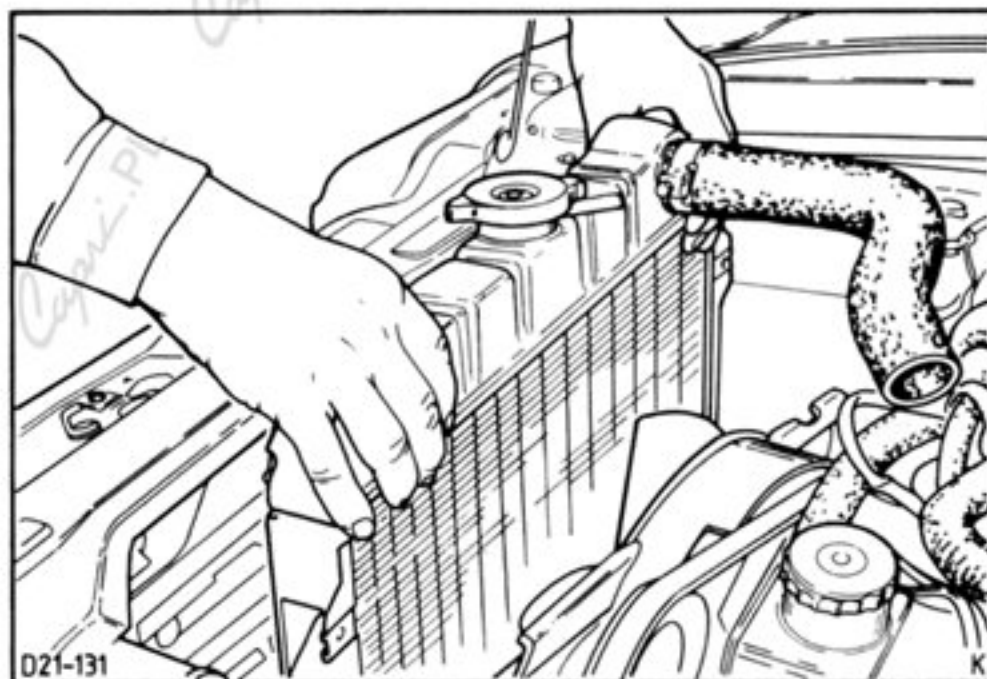

Fig.20. Insert radiator.
36. Insert radiator with fan shroud, Fig.20, and bolt in. Fit splash shield and fix upper and lower radiator hoses, Fig.21.